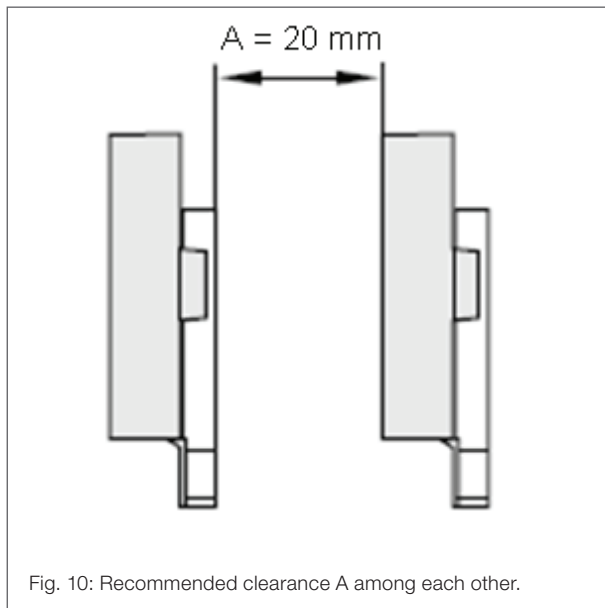

Fig. 10: Recommended clearance A among each other.
- For multiple sensor arrangements, it is recommended to place the sensors including their current feeds with a clearance (A) of at least  $20\text{ mm}$  to each other as shown in Fig. 10. A smaller distance may cause cross talk to adjacent sensors. The primary current feeds in the PCB may not to be routed underneath a sensor.